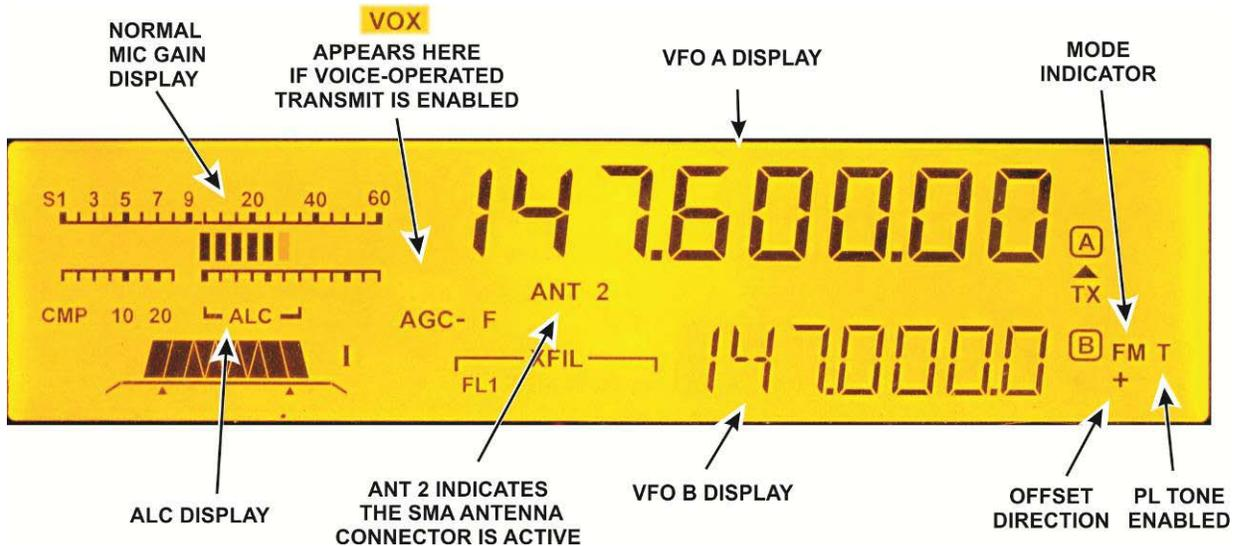

Figure 1. KX3 Display.
Connect your 2 or 4 meter antenna to the female SMA connector mounted on the KX3's right end plate. Note that when you select the 2 or 4 meter bands, ANT2 appears on the LCD indicating that the SMA connector is in use (see Figure 1 on page 5). The BNC connector is used only for the 160 through 6 meter bands.
Figure 1 shows the KX3 LCD identifying only those elements mentioned in the this text. See your KX3 Owner's manual for a complete description of the display.
- **Set Microphone Gain Level:** Press the microphone PTT switch and, while speaking normally into the microphone, adjust the **KEYER/MIC** control for 5 or 6 bars indicated on the LCD ALC display as shown in Figure 1.
- **Weak or Distorted Audio in FM Mode:** Check for proper microphone gain level. Press the microphone PTT switch and, while speaking normally into the microphone, adjust the  **KEYER/MIC** control for 5 or 6 bars indicated on the LCD ALC display as shown in Figure 1. Check that your deviation matches the receiving station (or repeater). For optimum results the deviation used at the transmitting station must match the deviation expected by the receiving station. If the deviation is too low the audio may sound weak. If the deviation is too high, the audio may be broken up and distorted. See *Frequency Deviation* on page 6 if you need to adjust the deviation.
- **Unable to Access Repeaters:** If you are sure you are in a location where your signal should bring up the repeater, check to ensure you are using the correct PL tone, that the PL tone is enabled for transmit and that the offset and offset sign are correct (see *Repeater Operation* starting on page 6). Be sure the Offset shown on the display (see Figure 1 on page 5) is correct for the repeater.